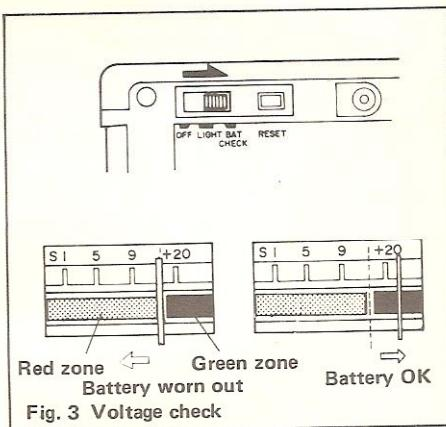

Fig. 3 Voltage check
1. Set the LIGHT/BAT CHECK switch (20) to the BAT CHECK position.
3. If the meter pointer is in the red zone on the meter scale (Fig. 3), the battery cells require replacement or recharging. When the battery cells installed in the unit are of UM-3 manganese or alkaline type, replace them. If they are rechargeable Ni-Cad cells, recharge them.